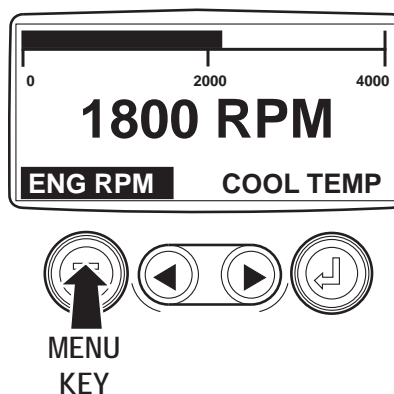

Figure 2 - 1-Up Display
1. Once the engine has been started and the keyswitch is turned to RUN, the Engine rpm parameter (ENG rpm) is displayed. See Figure 2.